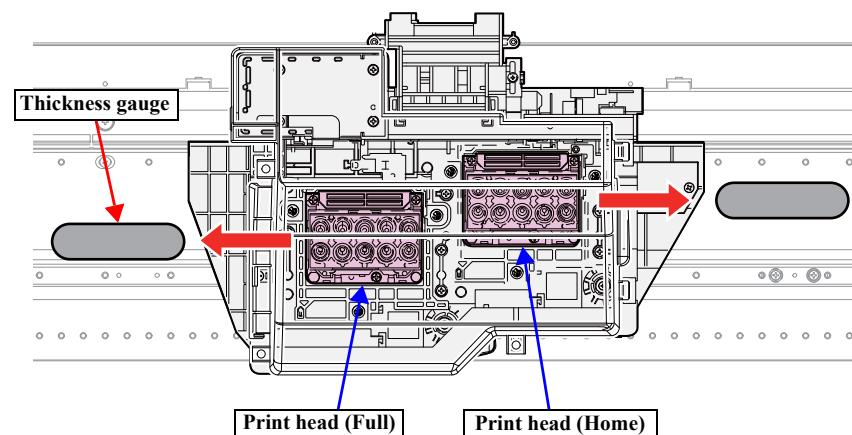
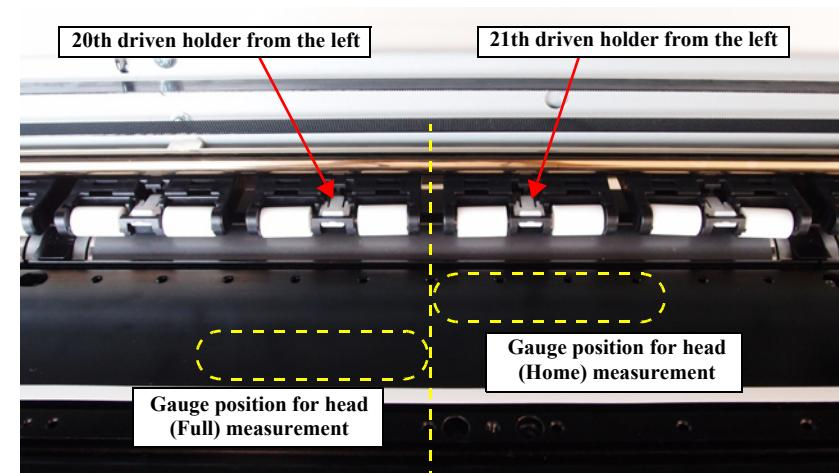

Figure 4-39. Check position
Figure 4-40. Gauge positions for measurement
7. Set the thickness gauge referring to Figure 4-39 and Figure 4-40.
6. Set the thickness gauge referring to Figure 4-39 and Figure 4-40.